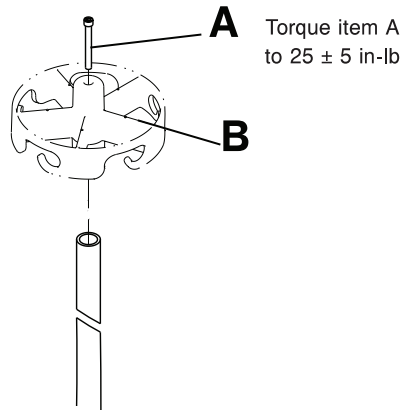

Figure 1-32: IV pole topper replacement
1. Using a 3/16" hex wrench, remove the socket head cap screw (A) from the center of the IV pole topper (B). Save the screw (Figure 1-32 on page 1-50).
4. Using a 3/16" hex wrench, install the socket head cap screw (A) (removed in step 1) to secure the IV pole topper to the IV pole. Using a 3/8" drive torque wrench, torque the screw to  $25 \pm 5$  in-lb.